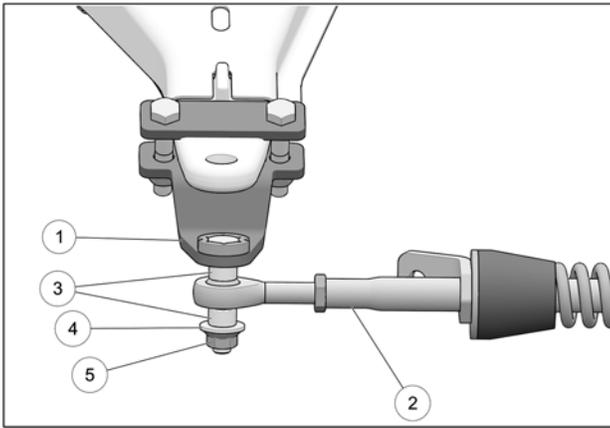

Fig. 27
17. Attach the stabilizing rod (2) to the anchor bracket (1), using the two spacer bushings (3), flat washer (4) and nut (5). Torque to 70 N•m [52 lb•ft]. Fig. 27